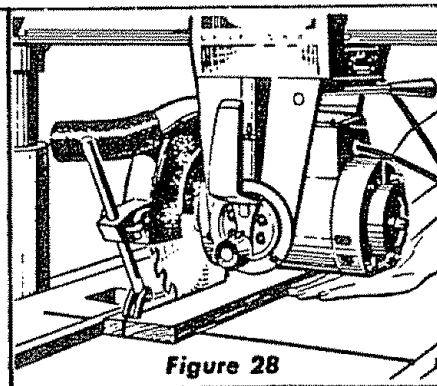

Figure 28
**IN-RIPPING**—In-rip refers to a position when the blade is between the motor and the fence and parallel to the fence. See Figure 28. To place the saw in this position, unlock the yoke, disengage the swivel latch pin and rotate the yoke 90° clockwise (viewing it from the carriage) until the swivel latch pin automatically indexes the yoke 90°. Relock the yoke. See "Adjustment of Pointers" to check accuracy of "In-Rip" scale reading. Position the motor on the radial arm until the pointer on the "In-Rip" scale indicates the desired width of the finished cut board. Tighten the carriage lock knob securely. Position the discharge elbow on the guard so that sawdust will be blown toward the rear of the saw. Turn the saw "On" and lower the saw blade until it cuts into the table top about  $\frac{1}{32}$ ". Turn the saw "Off". Now adjust the saw guard and anti-kickback pawl assembly as described in the paragraph "Ripping". The board to be ripped must be fed into the saw blade from the right side of the table, therefore, the normal position for the operator is also at the right side of the table. With the left hand safely clear of the blade and holding the board to be ripped down against the table and against the face of the fence as a guide, use the right hand to feed the board into the saw. The left hand should remain stationary, serving as a guide only. As the right hand approaches the left hand, hold a push stick with the right hand to complete the cut. Do not leave a long board unsupported so that the spring of the board causes it to shift on the table. A support like that described in "Cross-Cutting" can be used to support the board behind the blade; and if the board is very long, use another support in front of the saw. Ripped boards up to 8 $\frac{1}{2}$ " wide can be cut in the In-Rip position.